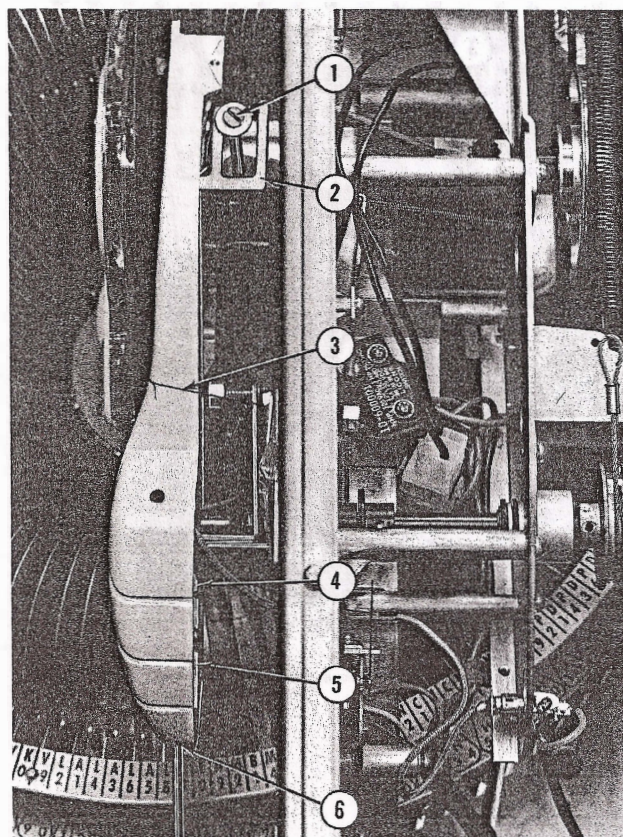

Fig. 80. TONE ARM BALANCING ADJUSTMENT
(4) Tone arm balance adjustment should be accomplished with the mechanism in play position, no record on the turntable and the service switch off. Using a piece of thread (Fig. 80, Item 3) tie the tone arm in a position where the latch bracket (Item 2) clears the feed in screw (Item 1). Using a gram scale such as Graybar 70-D measure at the pick up end, the pressure needed to move the arm in either direction: i.e. up or down. When correctly balanced by the adjusting screw (Item 6) the arm should move with no more than 1 gram pressure at any position in its swing. If a gram scale is not available a light puff of air should move the arm.